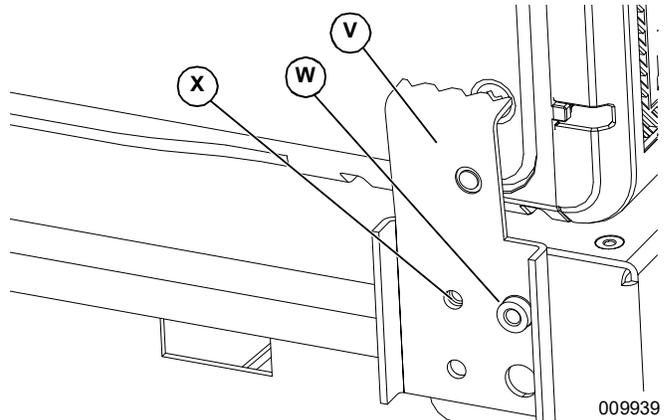

Figure 4-23. Retention Clips (3 of 3)
1. See **Figure 4-23**. Align holes in retention clip (V) with stud (W) and mounting hole (X).